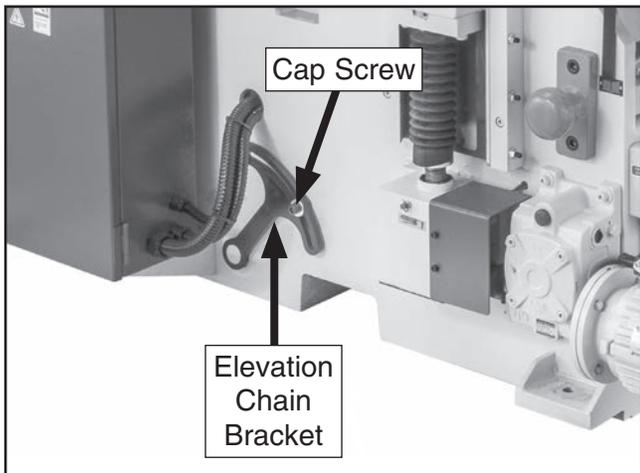

Figure 131. Location of elevation chain tensioning components.
4. Loosen cap screw (see **Figure 131**) that secures elevation chain bracket in place.
5. Push elevation chain bracket (see **Figure 131**) downward with moderate pressure. While maintaining pressure, tighten cap screw to secure setting.